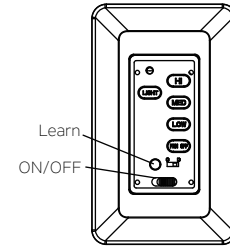

Fig. 20
Step 1. After installation is complete, press the LEARN button for 3 seconds within 30 seconds once AC power is turned on. Fan will turn on at medium speed and light (if installed) will turn on. This confirms that the SMART SYNC setting is active and ok. (Fig. 20)
Restore power to ceiling fan and test for proper operation (Fig. 20)